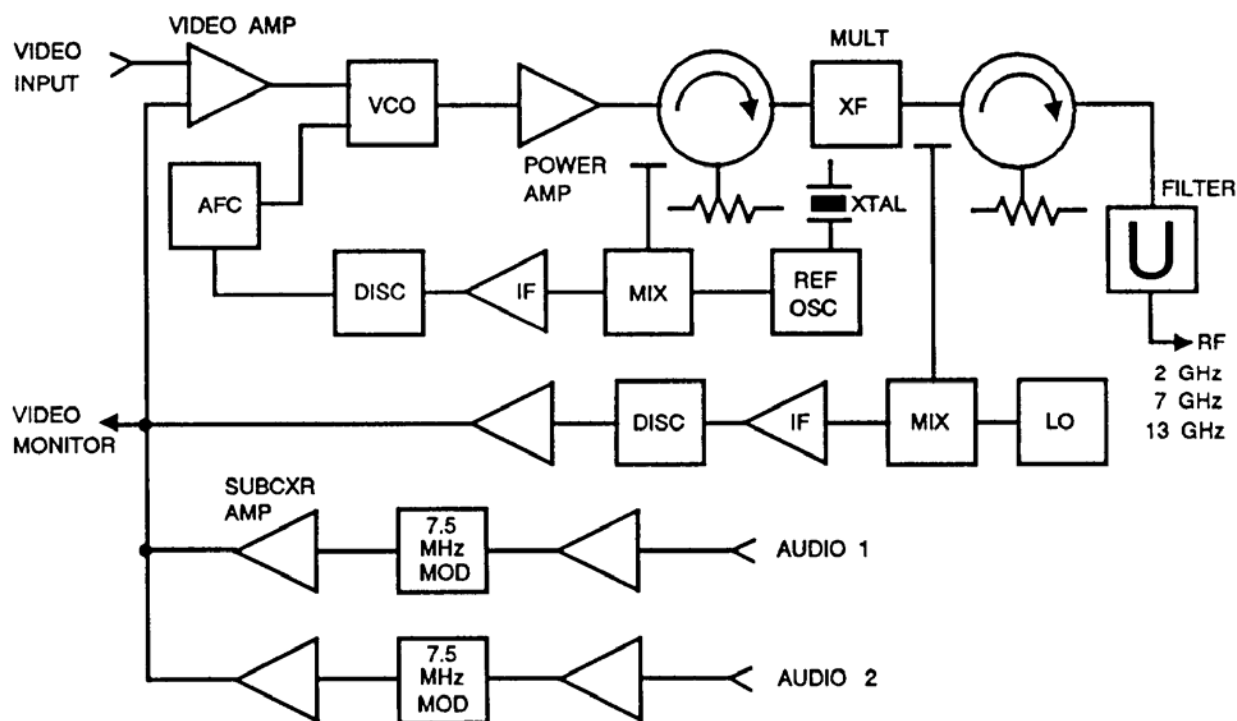

Figure U-1. Remodulating Transmitter Block Diagram
- (1) A video amplifier (with preemphasis),
- (2) An oscillator which can be modulated,
- (3) A crystal-referenced automatic frequency control (AFC) loop, and
- (4) A power amplifier and frequency multipliers when required to reach the desired output frequency as shown in Figure U-1.